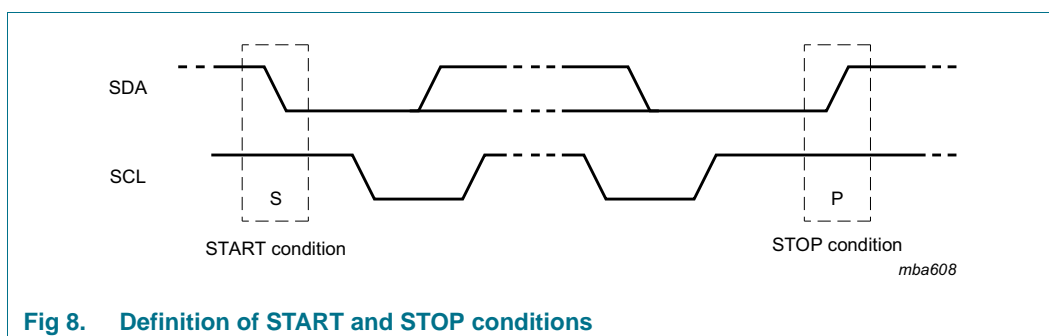

Fig 8. Definition of START and STOP conditions
Both data and clock lines remain HIGH when the bus is not busy. A HIGH-to-LOW transition of the data line while the clock is HIGH is defined as the START condition (S). A LOW-to-HIGH transition of the data line while the clock is HIGH is defined as the STOP condition (P) (see Figure 8).